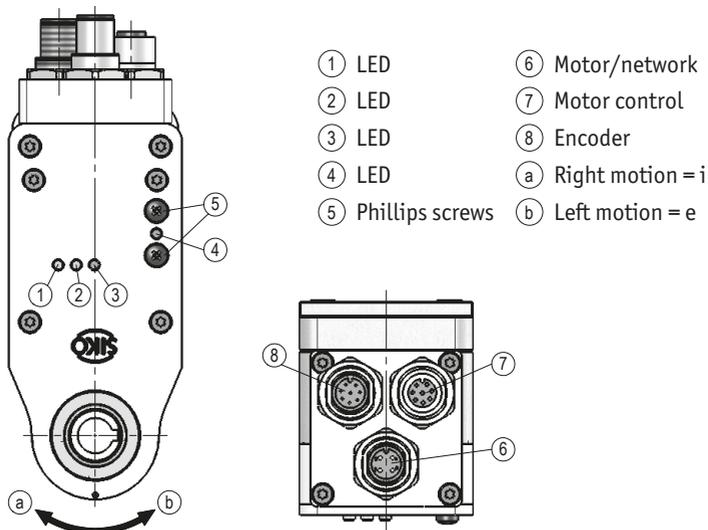

Fig. 7: Motor control PWM
- ▶ With the screws ⑤ loosened, the drive's type of protection is no longer ensured.
- ▶ Set the parameters on the trim potentiometers ⑩ using a 2 mm slot screwdriver.
- ▶ When remounting the screws ⑤ take care that the seal ⑨ are seated correctly!
By opening the Phillips screws ⑤ (see Fig. 7 + Fig. 8) the continuously adjustable trim potentiometer ⑩ can be accessed.
- ⑤ Phillips screws
- ⑨ Seal
- ⑩ Trim potentiometer
Operational and error states of the actuator control are signalled via the green status LED ④ (see Fig. 7).
- ▶ Simultaneously, an error blinking pattern is output via the status LED ④ (see Fig. 7) that allows identification of the pending error.